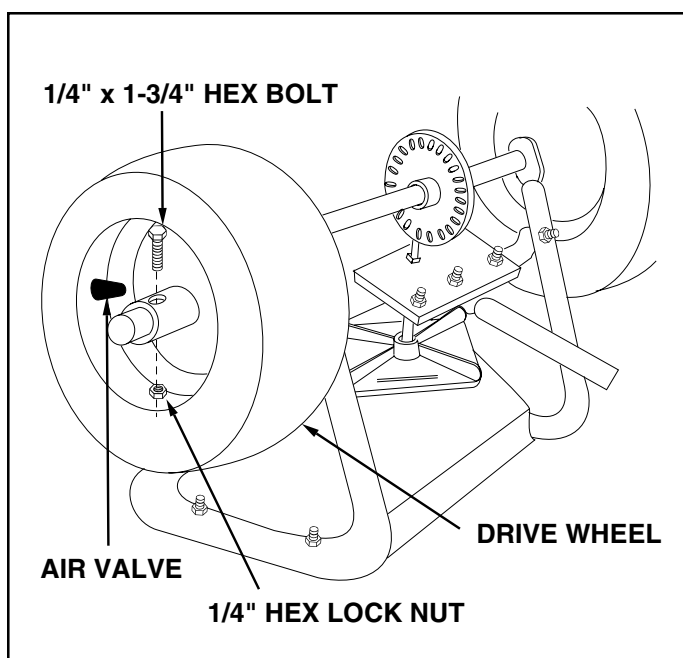

FIGURE 7
10. Place the drive wheel onto the axle (air valve to the outside) and secure with 1/4" 1-3/4" hex bolt and 1/4" hex lock nut. See figure 7.